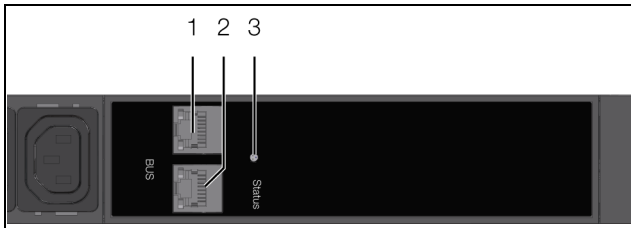

Fig. 46: Display elements and connections of the slave PDU managed
A multi-LED for status display is integrated into the front of the PDU (fig. 46, item 4). Further LEDs are located on the two CAN bus connections (fig. 46, items 1 and 2).